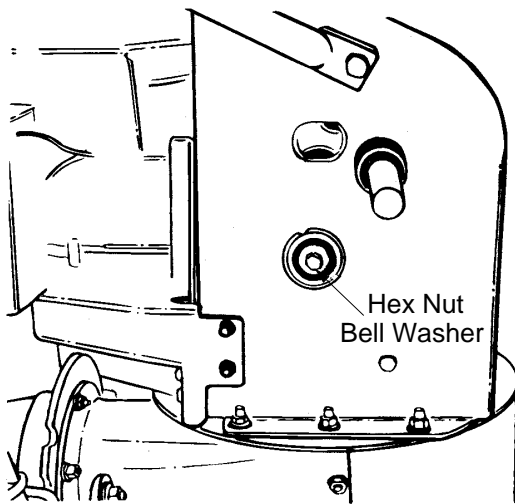

Figure 26
5. Using a 7/8" wrench to hold the shaft, loosen, but do not completely remove, the hex nut and bell washer on the left end of gear shaft. See Figure 26.